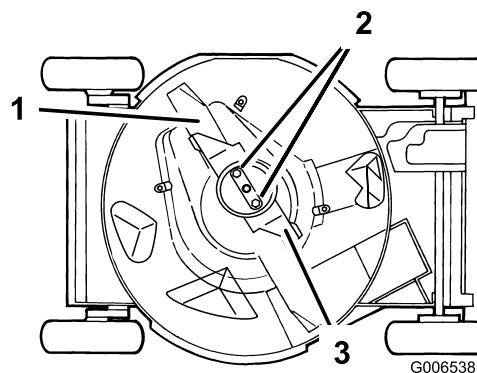

Figure 32
4. Tip the mower onto its **left** side (air cleaner up)(Figure 32).